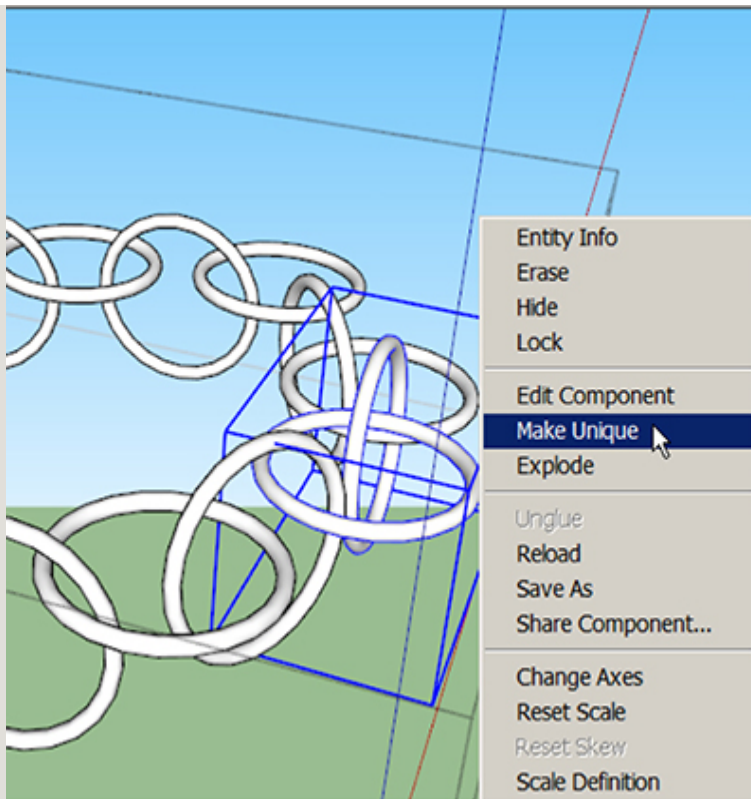

Figure 3-43 Make a component unique so that edits don't affect copies of it.
- To edit one component but not its copies, select that component (don't open its editing box), right-click, and choose Make Unique (Figure 3-43).